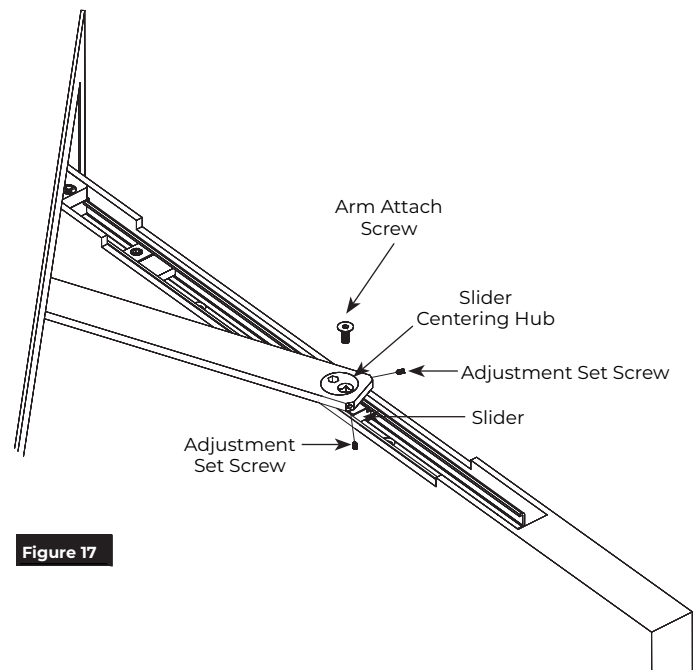

Figure 17
3. Install slider centering hub through arm into slider. (Figure 17)
4. Align hub initially as shown and insert two (2) 10-24 x 3/8" adjustment set screws. Turn both set screws just enough to retain slider centering hub. Do not tighten firmly at this time. (Figure 17)
5. Insert arm attach screw, 1/4-20 x 3/4" FH-Allen w/Nylon Patch, and tighten. (Figure 17)